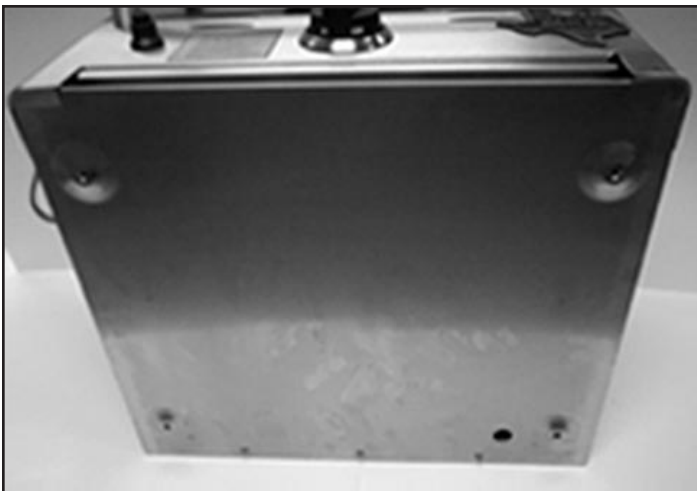

Figure 1.
1. Carefully remove grill from carton and locate (4) bottom feet.
2. Gently position grill on its back so as to expose bottom of grill. (Figure 1.)